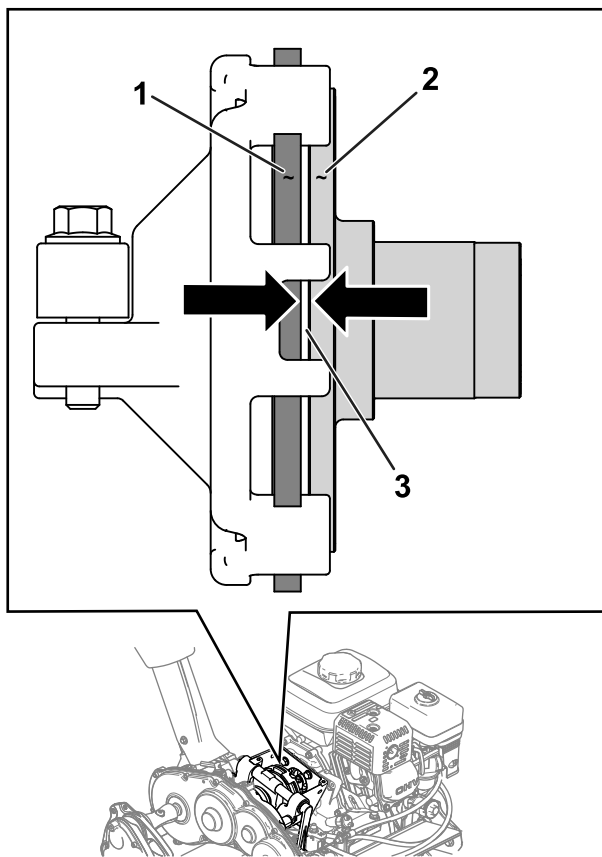

Figure 31
2. Loosen the jam nuts and adjust the traction cable so that a 1.1 mm (0.045 inch) gap is between the friction disc and the pressure plate (Figure 30 and Figure 31).